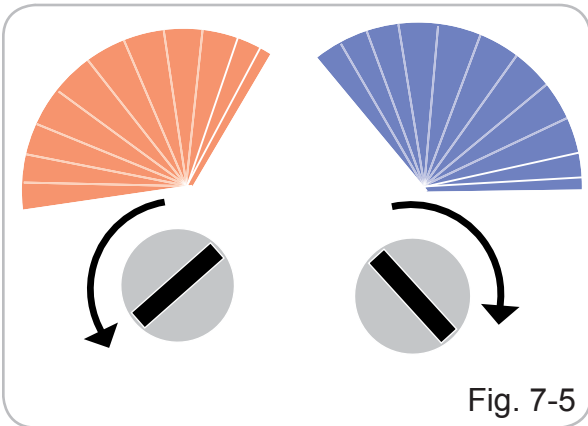

Fig. 7-5
- 1 With a screwdriver, rotate the 2 floodjet nozzles within the nozzle caps (See Fig.7-5) on the black nozzle bodies until the spray pattern is generally forward with a slight angle to the outside, so there is less overlap in the center.